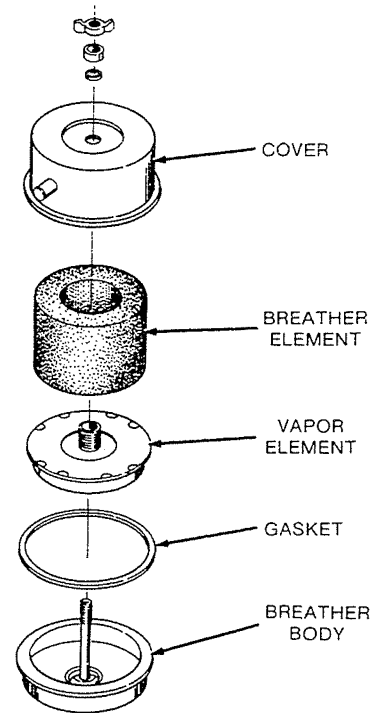

FIGURE 20. CRANKCASE BREATHER
1. Remove the wing nut, flat washer, and rubber washer (see Figure 20).